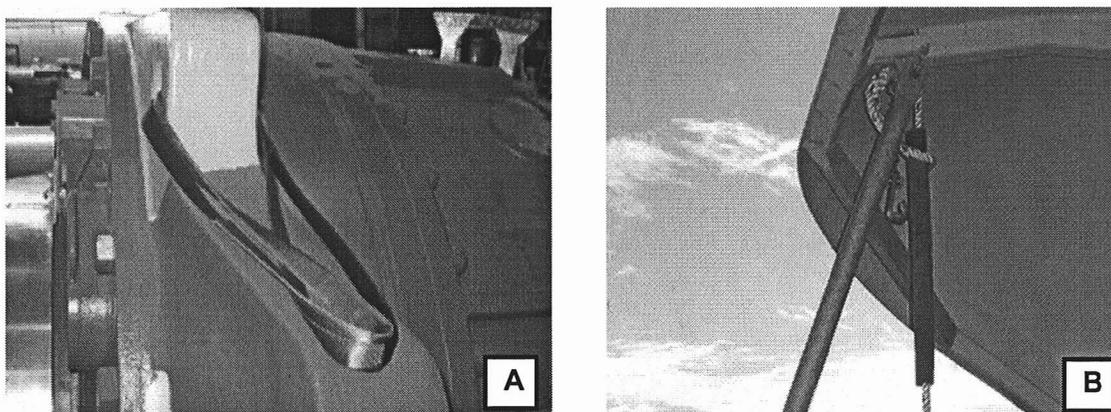

Fig. 28 Attachment options for webbing sling and work-positioning lanyard for turbine class K08 beta
- Pull the webbing sling or work-positioning lanyard through the left lifting lug of the gearbox, see Fig.28